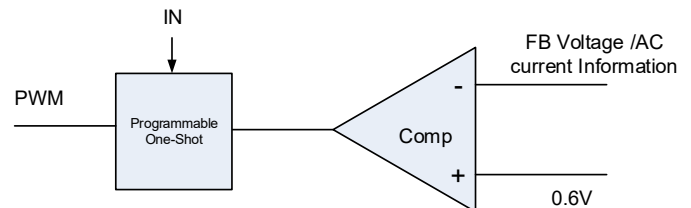

Figure 4. Simplified Control Schematic of AOZ22539QI
The simplified control schematic is shown in Figure 4. The high-side switch on-time is determined solely by a one-shot whose pulse width can be programmed by one external resistor and is inversely proportional to input voltage (IN). The one-shot is triggered when the internal 0.6V is higher than the combined information of FB voltage and the AC current information of inductor, which is processed and obtained through the sensed lower-side MOSFET current once it turns-on. The added AC current information can help the stability of constant-on-time control even with pure ceramic output capacitors, which have very low ESR. The AC current information has no DC offset, which does not cause offset with output load change, which is fundamentally different from other V^2 constant-on-time control schemes.
The relation between the input capacitor RMS current and voltage conversion ratio is calculated and shown in Figure. 4. It can be seen that when V_{OUT} is half of V_{IN} , C_{IN} is